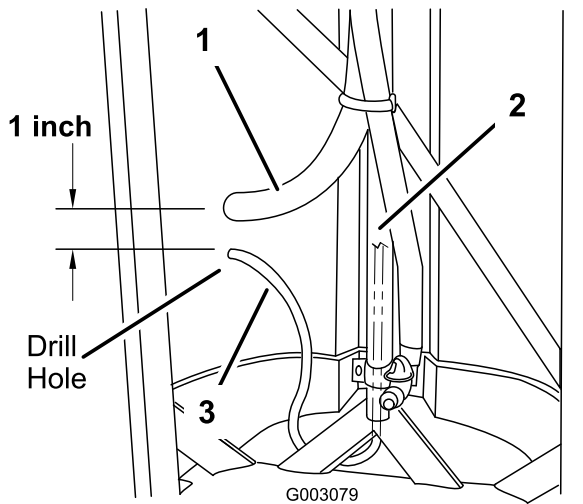

Figure 20
1. Drill a hole (3/8 inch) in the plastic shroud 1 inch over from the boom extension supply hose on each extension boom (Figure 20).